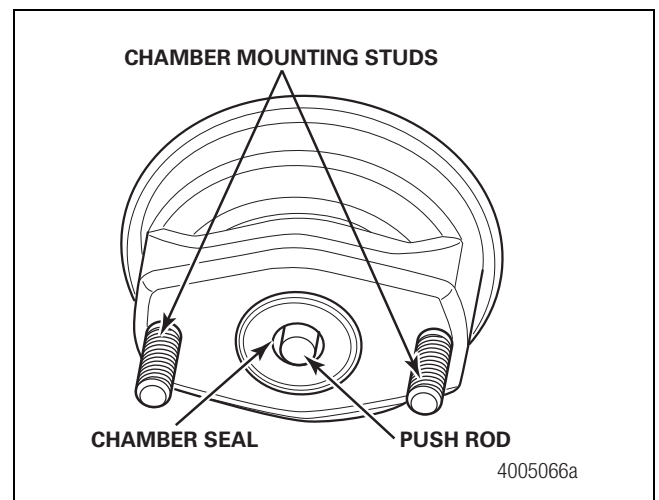
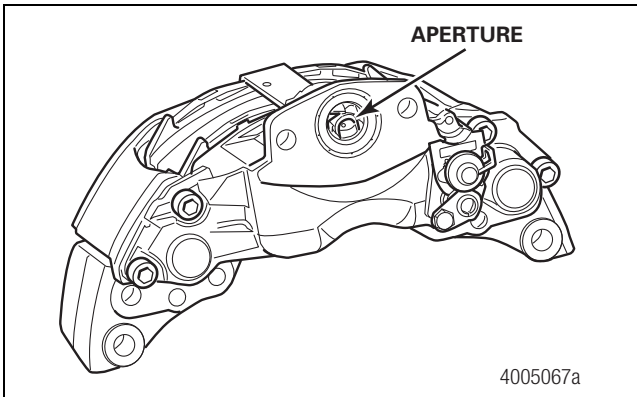

Figure 7.2
Figure 7.3
1. With the air chamber removed, visually inspect the chamber mounting studs. Figure 7.2.
2. Visually inspect the chamber push rod and chamber seal. Figure 7.2.
3. Visually inspect the chamber piston, chamber seal and chamber-mounting aperture on the caliper housing assembly. Figure 7.2 and Figure 7.3.